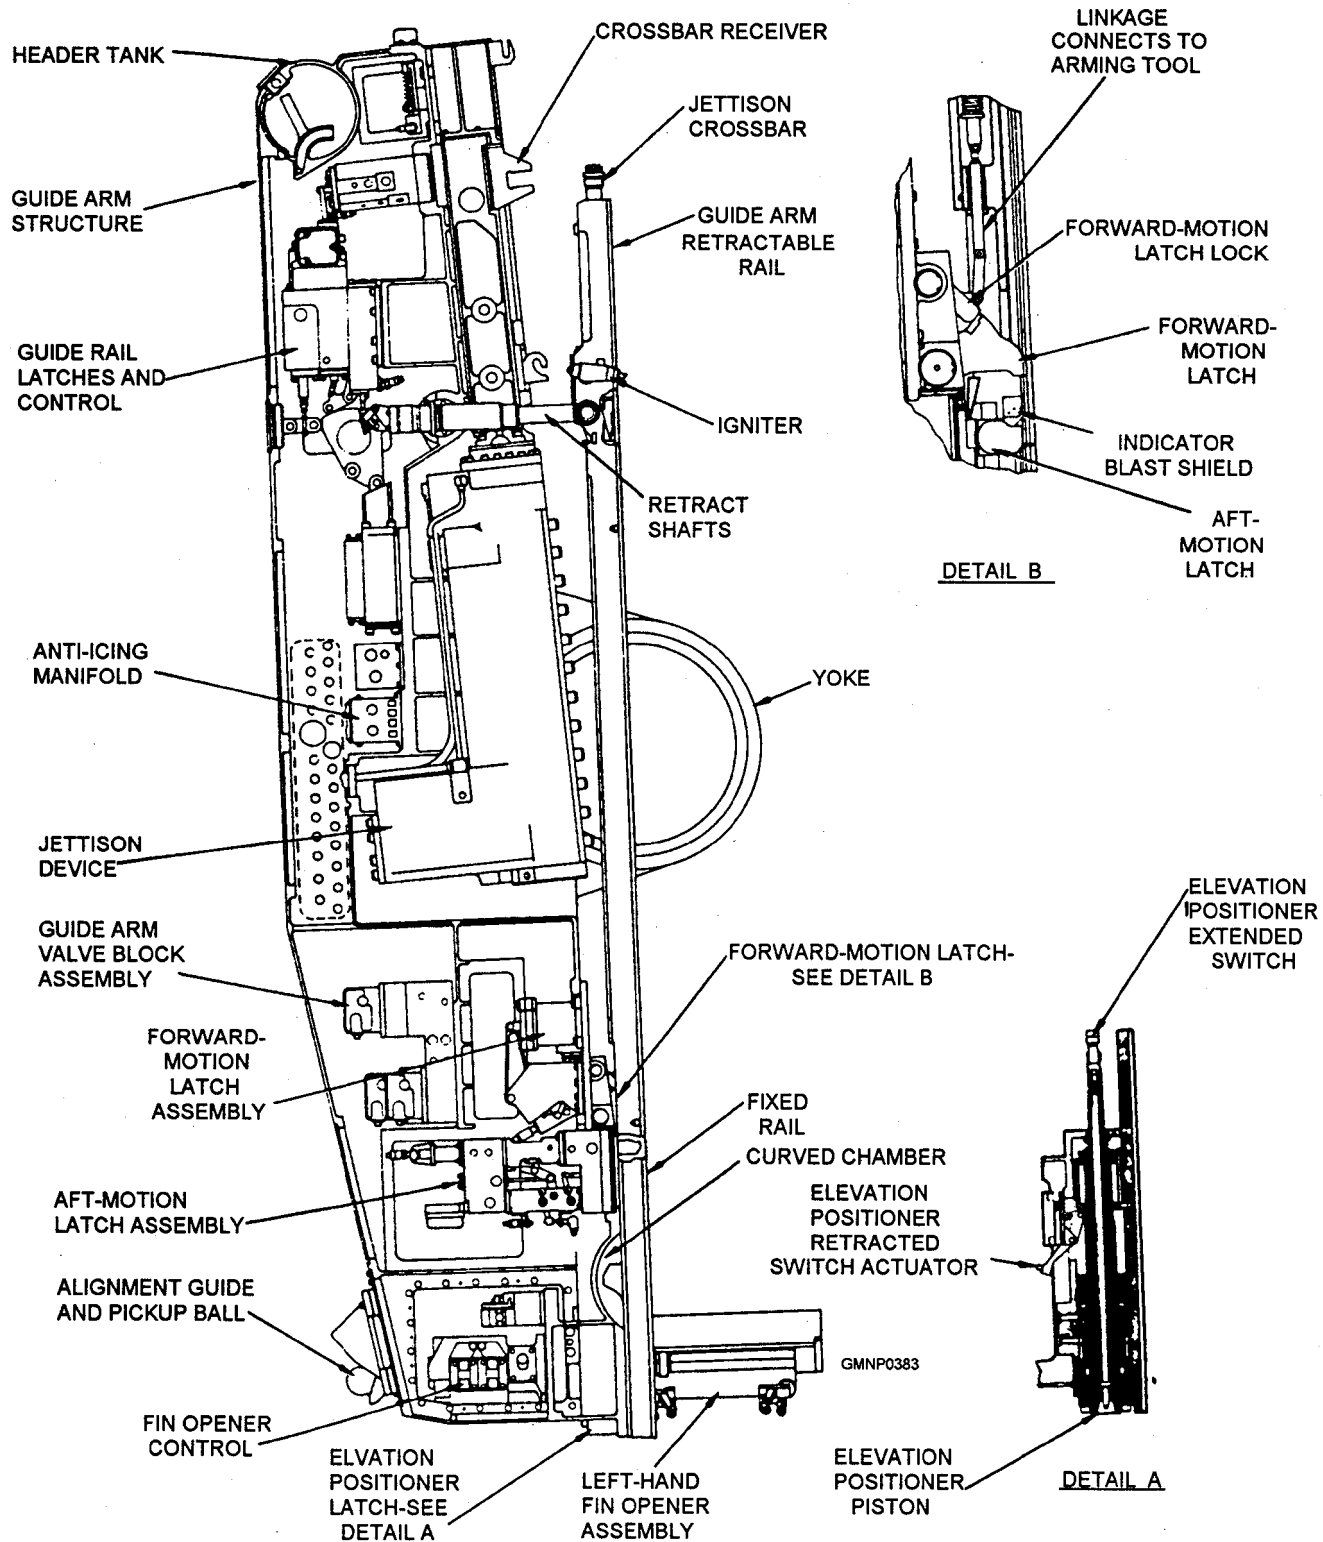
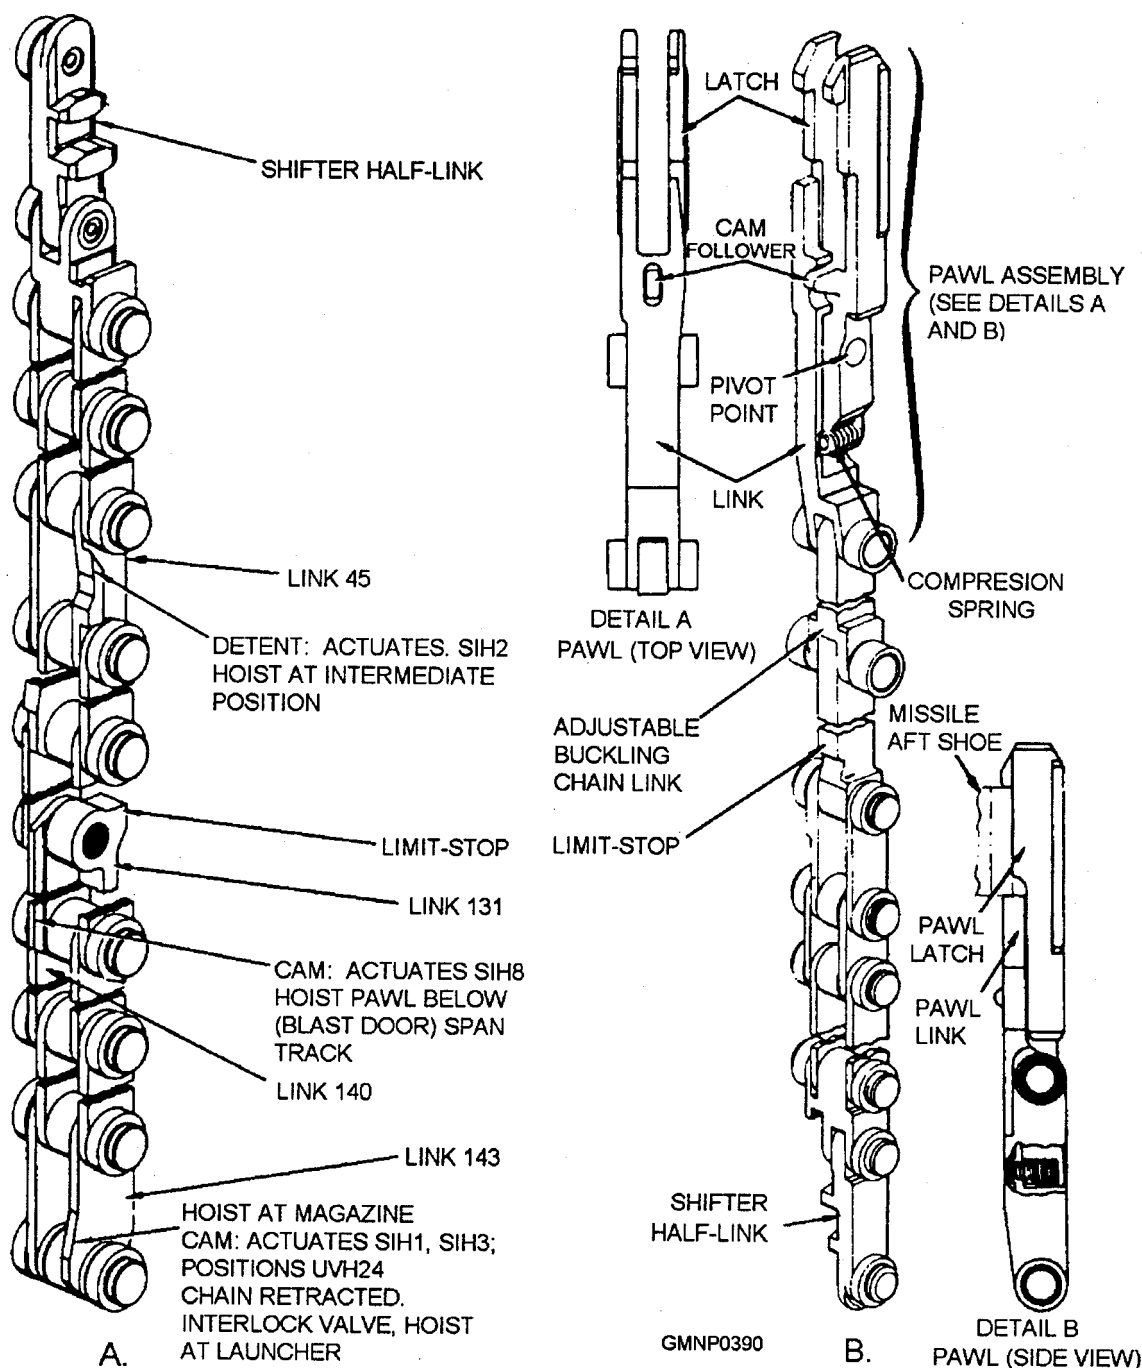

Figure 7-5.—Guide arm.
Figure 7-12.—Hoist chain component A. Hoist chain; B. Outer hoist pawl.
**FIXED GUIDE RAIL.**— The fixed rail (fig. 7-5) is slightly less than 30 inches long and is secured to the lower or aft end of the guide arm structure. In addition to forward and aft shoe tracks, it contains an internal track for the hoist chain, the pawl, and the rollers. A cam track engages a special pair of rollers on the chain to compensate for any hoist chain overtravel as it extends up to the launcher. This is called the adjustable buckling chain link and is shown in figure 7-12. The cam track directs any excess chain into an upward curving chamber midway within the fixed rail.
**Aft-Motion Latch.**— The aft-motion latch (fig. 7-5, Detail B) is located near the pivot point of the retractable rail. This device is a stop that prevents a missile from moving backward on the retractable rail. The latch is a hydraulic piston that extends behind the aft shoe of the missile. One of its associated mechanisms is a rod that mechanically detects when a missile is on the guide arm. This rod also provides a discharge path for electrostatic charges on the missile surface. Another plunger of the aft-motion latch pivots a piece on the hoist pawl to disengage it (hoist pawl) from the aft shoe of the missile.
**Forward-Motion Latch.**— The forward-motion latch (fig. 7-5, Detail B) is a dual-purpose stop. It acts as a positive stop when the hoist raises a missile onto the retractable rail. Until missile firing or jettisoning, the latch also restrains the missile from moving forward on the rail and falling onto the deck.
**ELEVATION POSITIONER.**— The elevation positioner consists of a hydraulic piston and a latch at the aft end of the guide arm structure (fig. 7-5, Detail A). When the blast door is open and the launcher guide is at 90° elevation, the tapered nose of the piston extends down to engage a spud on the door. This locks the launcher guide to the carriage. The piston, or positioner, retracts up into a bore within the guide arm structure to allow launcher elevation movements. The latch prevents the positioner from springing out due to a loss of hydraulic fluid pressure or because of vibration.
The components of the hoist assembly (fig. 7-11) perform all vertical transferring of the missiles. The hoist chain (fig. 7-12) is an open-end roller and link-type chain with cam-type projections and detentes on some specific links. They actuate interlock switches and valves, couple with the shifter half-links on the hoist pawl units, and act as travel limit-stops.
The hoist chain shifter is a hydraulically operated device located between the drive mechanism and the curved tracks. It raises or lowers the hoist chain's shifter half-link into alignment with either the inner or the outer hoist pawl unit's shifter half-link (see fig. 7-12). Two curved track assemblies, one for the inner ring and one for the outer ring, serve to guide the hoist chain and connected pawl unit. They pivot out and up to the magazine rail of the cell at the selected hoist position. Additionally, the hoist pawl units are stored in their respective curved track sections when the hoist chain is fully retracted at the magazine position.